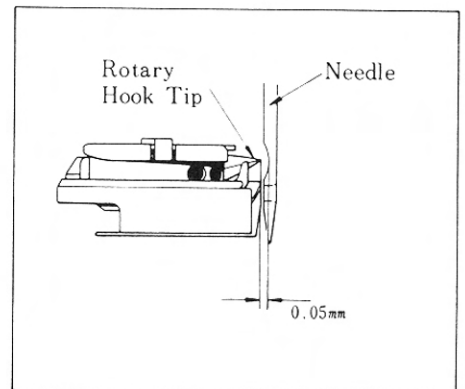

Figure 3
2. Hooks to Needles for Clearance, Timing, and Bobbin Case Height (Figures 3, 4, 5, 6a, 6b and 7)
- Move the support housings as needed to obtain minimum clearance (approximately 0.05mm) between the hooks and needles (see Figure 3).